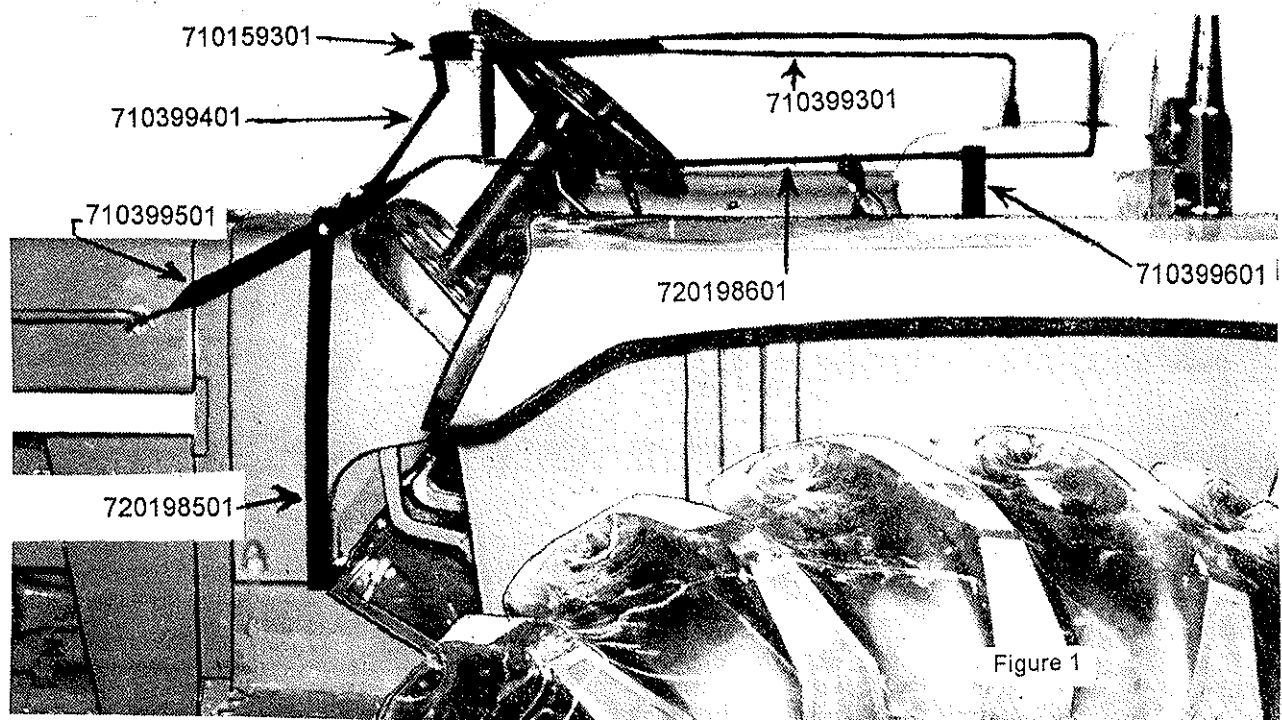

Figure 1
1. Bolt #720198501 saddle to tractor using 5/16" x 1" hex head bolts. See Figure 1.
2. Bolt #710399401 mounting bracket to saddle using 5/16" x 3/4" hex head bolts and nuts. See Figure 1.
3. Bolt #710399501 yoke support to saddle using 5/16" x 3/4" hex head bolt and nut. Bolt lower end of yoke support to grab handle on tractor using 1/4" U-bolt. See Figure 1.
4. Insert #710159301 yoke and #710399301 side arm into wide hem in vinyl cover. Bolt side arm to yoke using 3/8" x 1 1/2" hex head bolt and nut. (Head of bolt goes to bottom.) See Figure 1.
7. Place left side of yoke on yoke support, then door frame on top of yoke. Bolt together with 3/8" x 1 1/2" carriage bolt. Put 2 - 3/8" nuts on bolt to lock. See Figures 1 & 2.